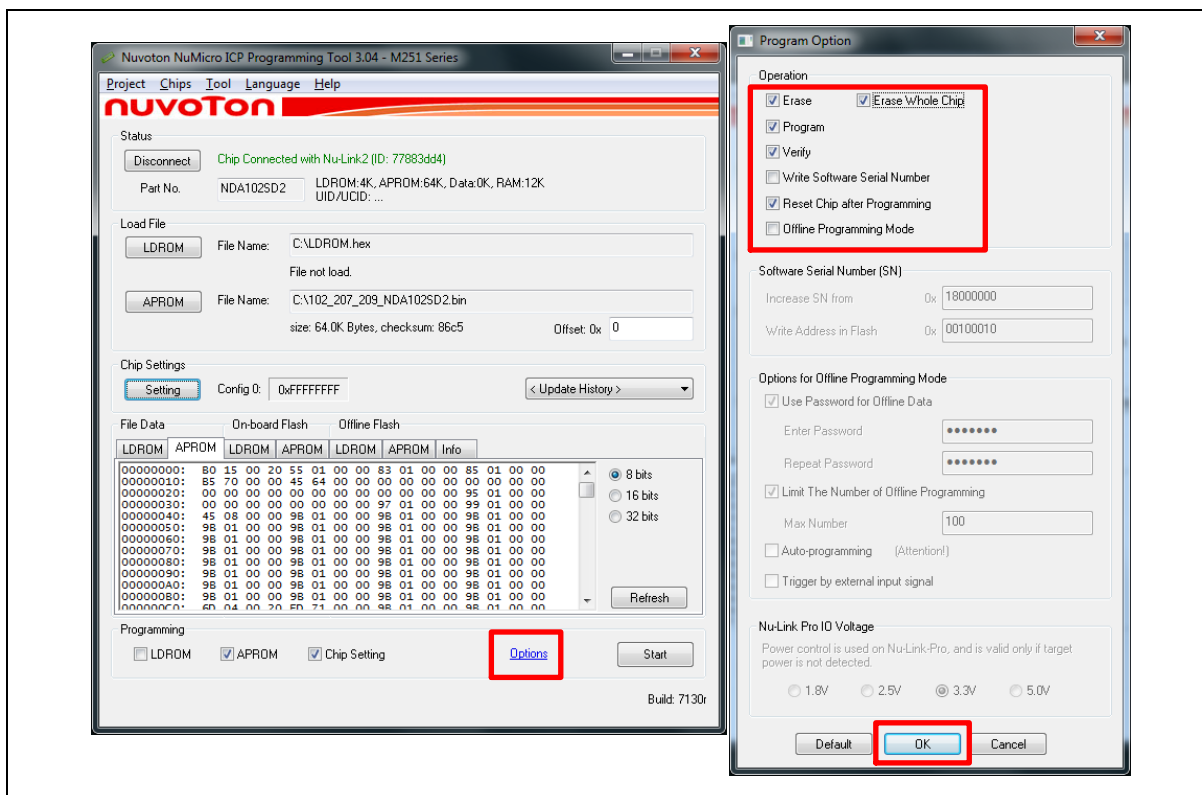

Figure 5-23 Default Options Setting
- Check the “Options” setting. The default setting for Nuvoton DALI project is shown as Figure 5-23.